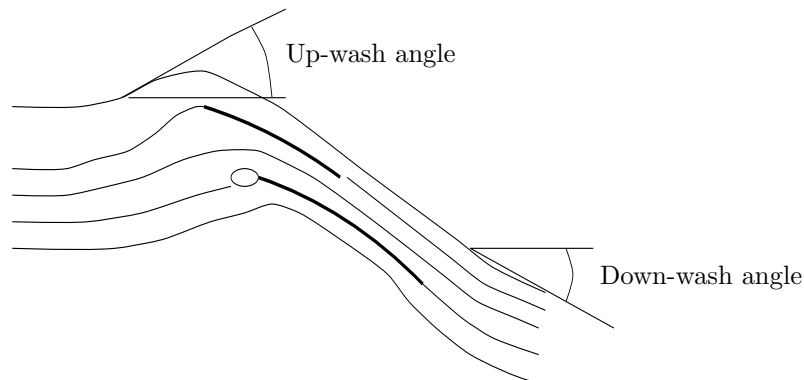

Figure 5: Slot effect
It is worthwhile making a comment on the use of *streamlines* to visualize the slot effect. Streamlines are curves with a precise mathematical definition: *The streamlines are those curves that are tangent to the velocity vector*⁴ *at a particular time instant*. Because of this, there is no flow across the streamlines and therefore if we know the streamlines, we can apply Bernoulli's Principle. That is to say, if two streamlines separate, the speed of the air between them reduces, and if the streamlines get closer, the speed of the air increases. As discussed in reference [1], the problem with many references in the sailing literature is that the streamlines are not carefully drawn, and therefore incorrect explanations arise. Figure 5 shows an schematic of the streamlines that were experimentally obtained by Gentry using a analog field plotter—see [1]. We can see from figure 5 that at the beginning of the overlap between the headsail and the main, the
- Because of the main, there is a change in the relative angle between the air flow and the headsail. This effect is called up-wash and it is essentially, a shift in the wind direction—see figure 5. This up-wash allows the head sail to be able to operate at smaller angles of attack with respect to wind direction ahead of the sail. Therefore, the yacht can sail closer to the wind.